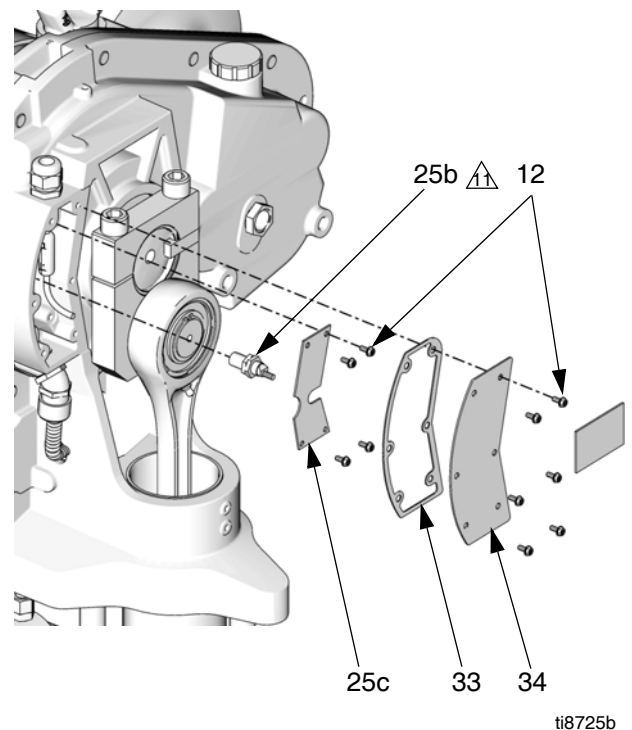

Fig. 14. TDC Sensor
4. Remove two screws (12) and the cover (32).
5. See FIG. 14. Remove six screws (12), the circuit board cover (34), and the gasket (33).
9. See FIG. 14. Remove four screws (12) and the circuit board (25c).
12. Install the circuit board (25c) using four screws (12).
16. Install the new gasket (33), the cover (34), and six screws (12).
17. Reinstall the cover (32) with two screws (12).
6. Disconnect the position sensor wires and the IS circuit field wires from the two terminal blocks (46). Retain the terminal blocks. See the **Electrical Diagrams**, page 10.